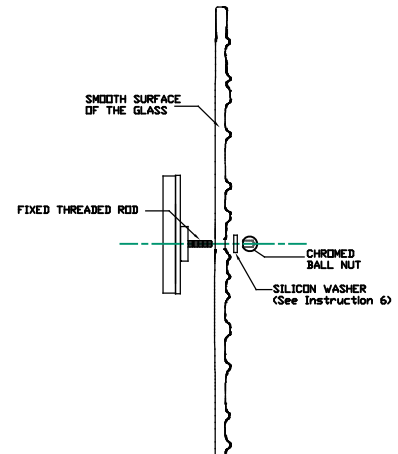

FIGURE-03
- 6.3. Lock the glass using ball nut and silicon washer see figure-03.